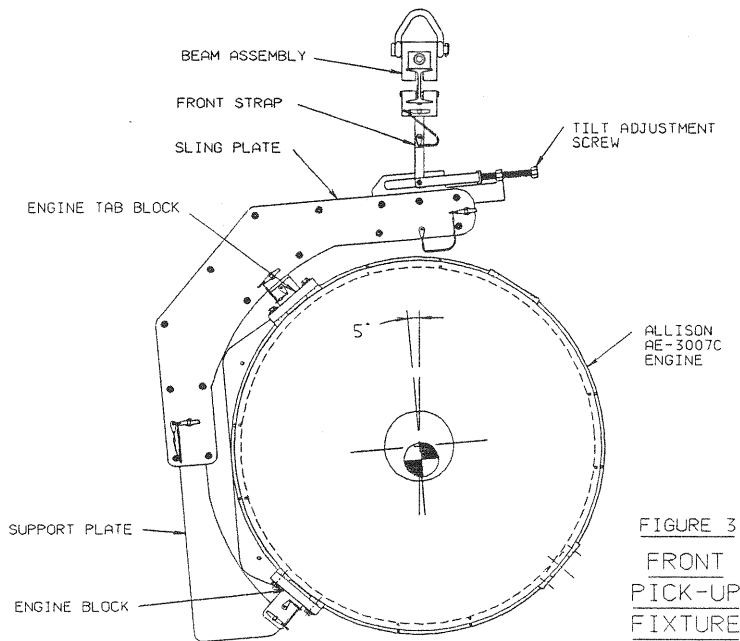

FIGURE 3
F. Adjustments to the tilt adjustment screw on both front and rear pickup fixtures must be made at the same time to adjust for the roll of the engine (see Figure 3).